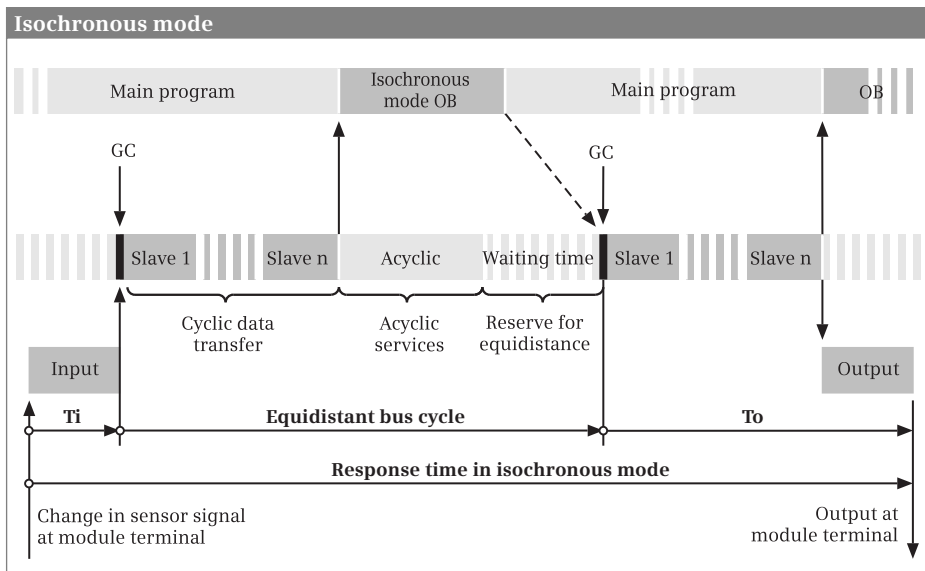

Fig. 16.17 Response time with constant bus cycle time and isochronous mode
Fig. 16.17 shows the times involved in the isochronous mode. T_i is the time required for reading in the process values. It contains the execution time in the input modules or electronic modules and, in the case of modular DP slaves, the transfer time on the backplane bus. At the end of T_i , the input information for transfer using the global control command (GC) is available. The constant bus cycle time then commences. This is the time between two global control commands and encompasses the transfer to the subnet as well as the execution of the isochronous interrupt OB. Between completion of the execution of this OB to the next global control command there must be time for execution of the main program.